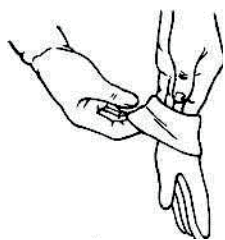
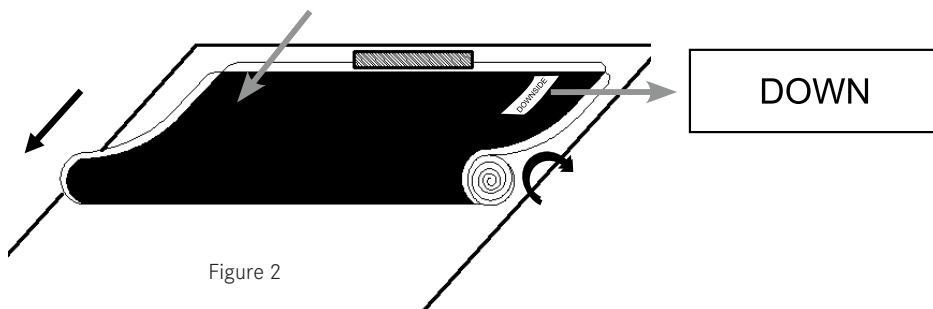

Figure 1
Figure 2
Before mounting the screen (H), put on the assembly gloves provided (G) to prevent the transfer of fingerprints, dust, or oil from your hands to the surface of the material (figure 1). The screen (H) is highly sensitive and should be handled with the utmost care. Ensure that the material is not misshapen or creased. Failure to observe the instructions can result in permanent damage to the screen material that is not covered by the warranty.
- ▶ Remove the screen (H) from the packaging tube and carefully place it on a clean surface.
- Each person should hold one end of the roll and slowly unroll the screen in a clockwise direction (figure 2).